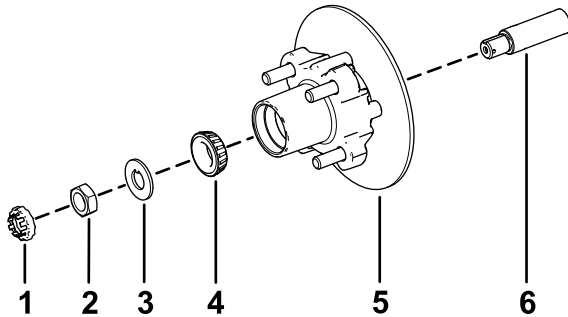

Figure 33
1. Apply a light coat of the specified grease to the spindle (Figure 33).
2. Assemble the hub and rotor onto the spindle with the rotor inboard (Figure 33).
3. Assemble the outboard bearing onto the spindle and seat the bearing to the outboard race (Figure 33).
4. Assemble the tab washer onto the spindle (Figure 33).
5. Thread the spindle nut onto the spindle and tighten the nut to 15 N·m (11 ft-lb), while rotating the hub to seat the bearing (Figure 33).
2. Align the brake pads to either side of the rotor (Figure 29) and the holes in the caliper bracket with the holes in the brake mount of the spindle frame (Figure 33).